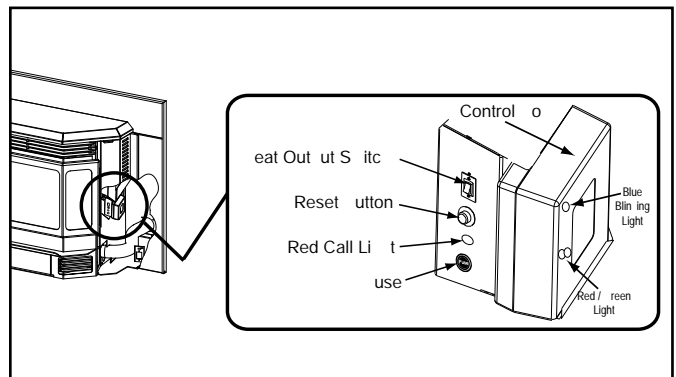

Figure 25.1
The appliance is like most modern furnaces; when the thermostat calls for heat, your appliance will automatically light and deliver heat. When the room is up to temperature and the thermostat is satisfied, the red call light will shut off and the appliance will shut down. **Figure 25.1.**
3. Locate the heat output control switch on the right side behind the right side panel. Set to the HIGH setting and then adjust the thermostat to its highest setting. The red call light will be on which is located on the right side behind the right side panel. This indicates the thermostat is calling for heat. **See Figure 25.1 on page 25.**